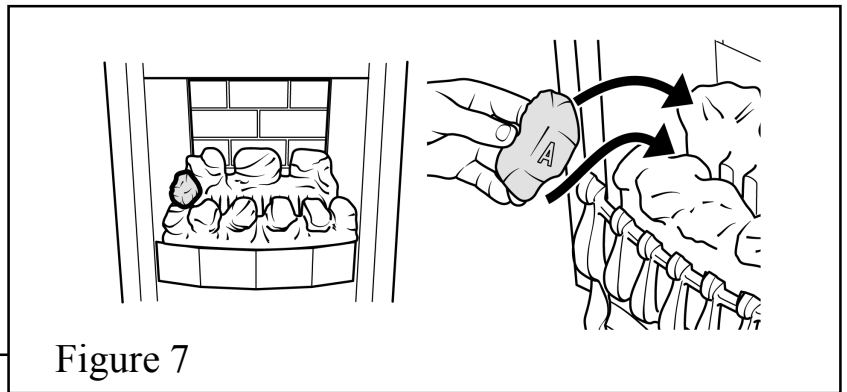

Figure 7
5. Place a type "A" coal between the front and rear base coals with the letter "A" upright and so that the coal is against the left side of the firebox. See figure 7.